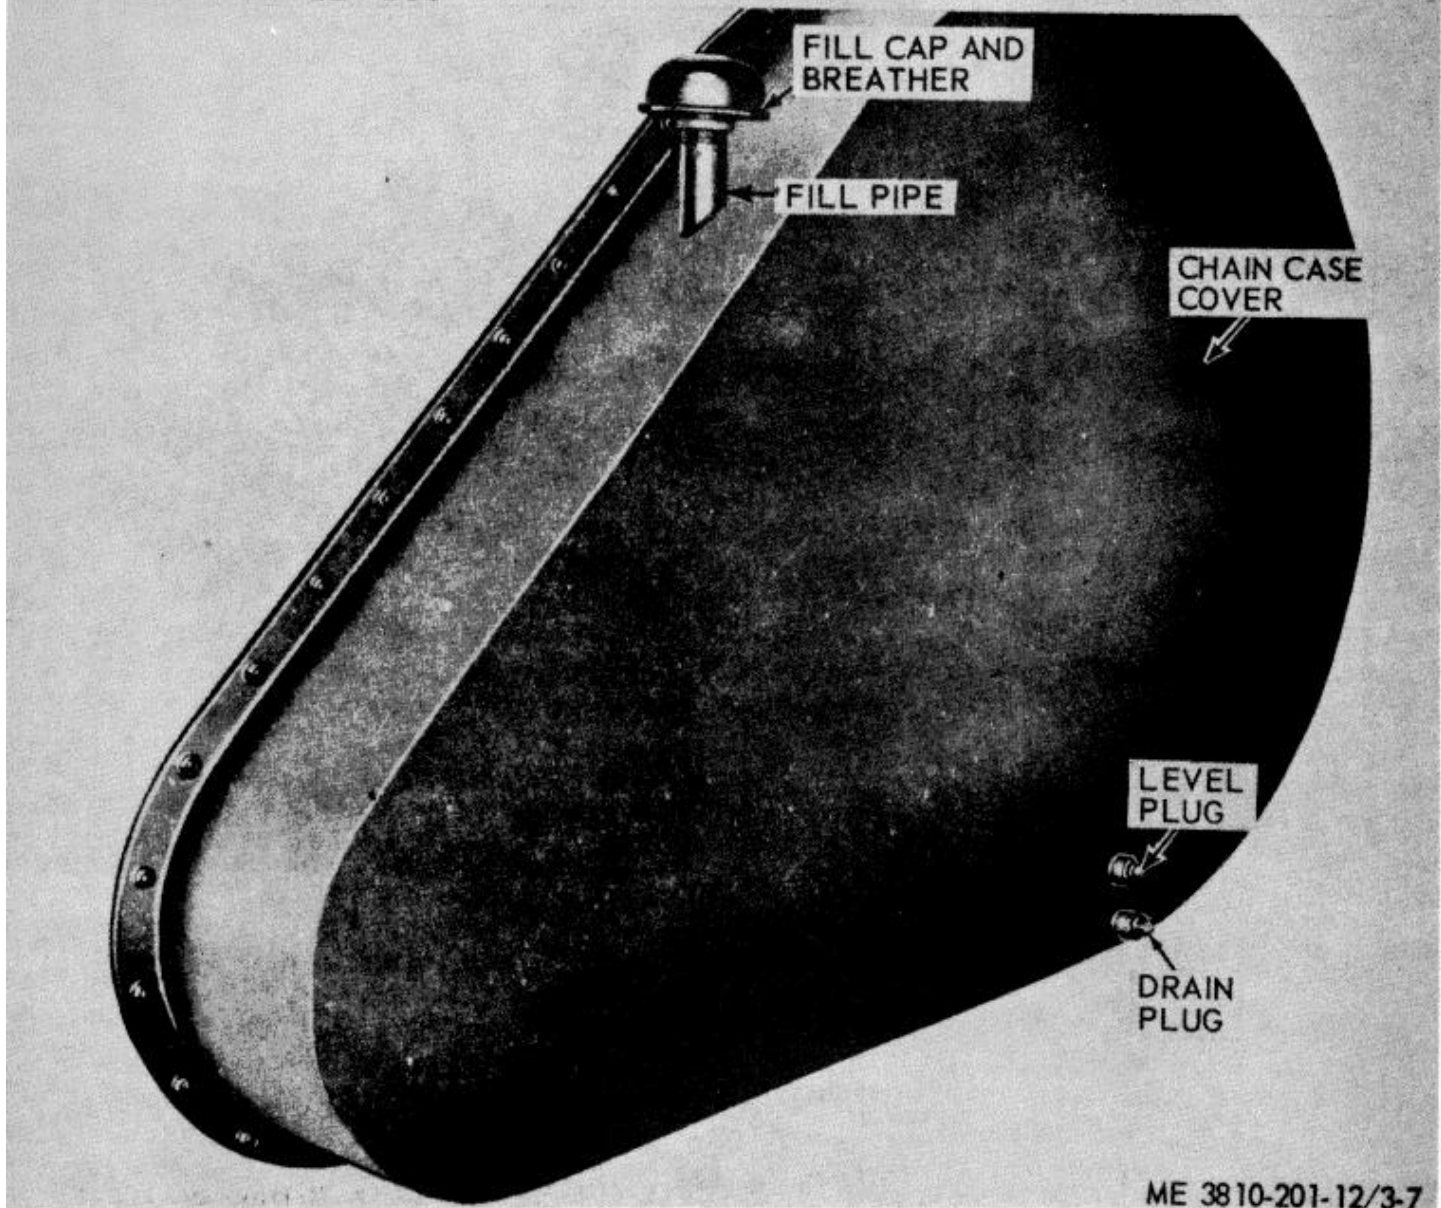

Figure 3-7. Chain case fill cap and breather service.
(1) Refer to LO 5-3810-201-12 for interval, then remove fill cap (fig. 3-7), wash in an approved cleaning solvent, and dry thoroughly with low pressure compressed air.
(2) Inspect breather portion of fill cap for damage to filter screen wire, and assure removal of all foreign matter.
(3) Replace a defective fill cap breather.
(4) Refer to current lubrication LO 5-3810-201-12 for instructions on changing of oil in chain case.